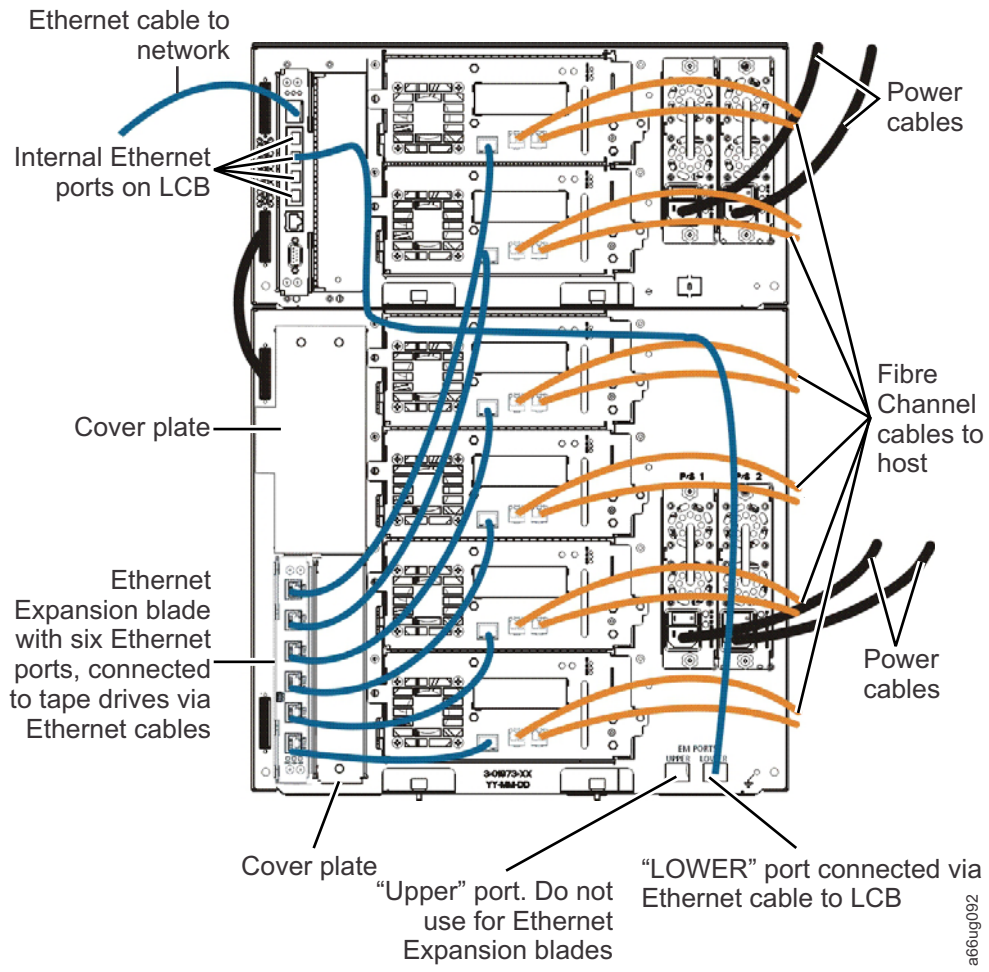

Figure 12-44. Ethernet connectivity on 14U and higher libraries
11. For every expansion module that contains an Ethernet Expansion Blade, connect with an ethernet cable from one of the four internal ethernet ports on the library control blade (LCB) to the ethernet port marked "LOWER" on the lower right of the expansion module in which the Ethernet Expansion Blade is installed. There are two ports, marked "UPPER" and "LOWER." Since the Ethernet Expansion Blade must be installed in the lower bay of the expansion module, you must use the ethernet port marked "LOWER." The "LOWER" port is on the right. See Figure 12-44 on page 12-49.